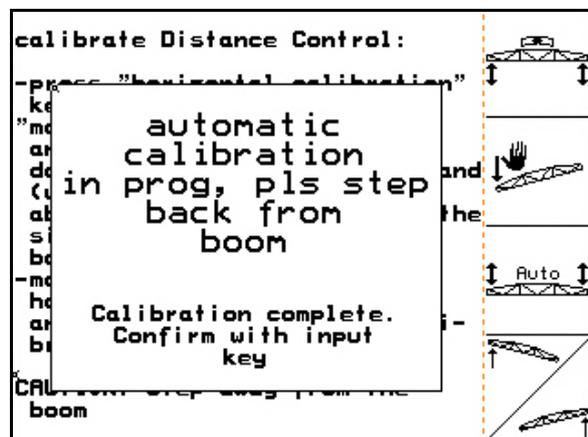

Fig. 33
- When the automatic calibration is ended, this is indicated by the computer (Fig. 33).